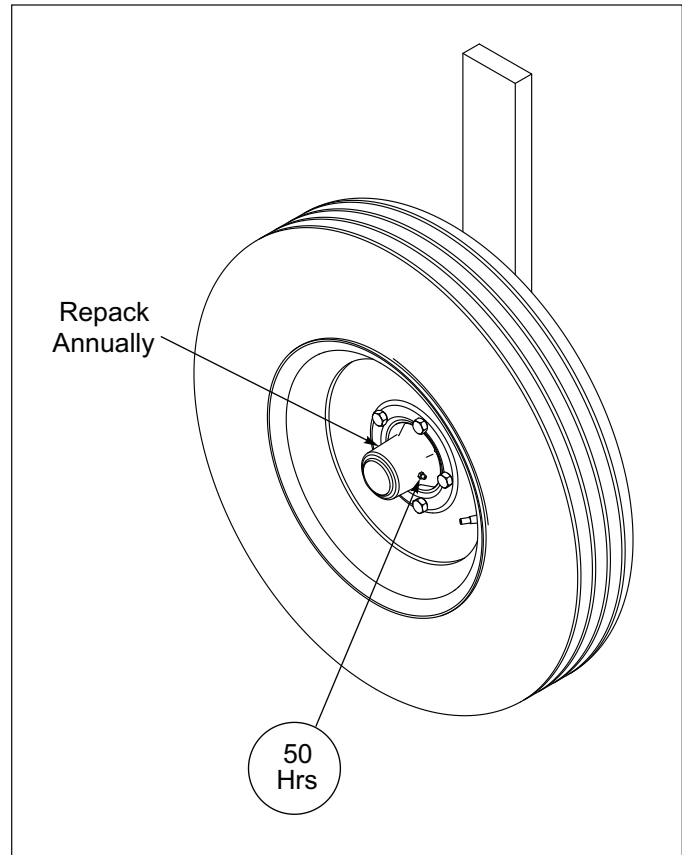

Figure 4-2: Wheel Hub Lubrication
- Grease Wheel Hubs every 50 hours. **See Figure 4-2.**